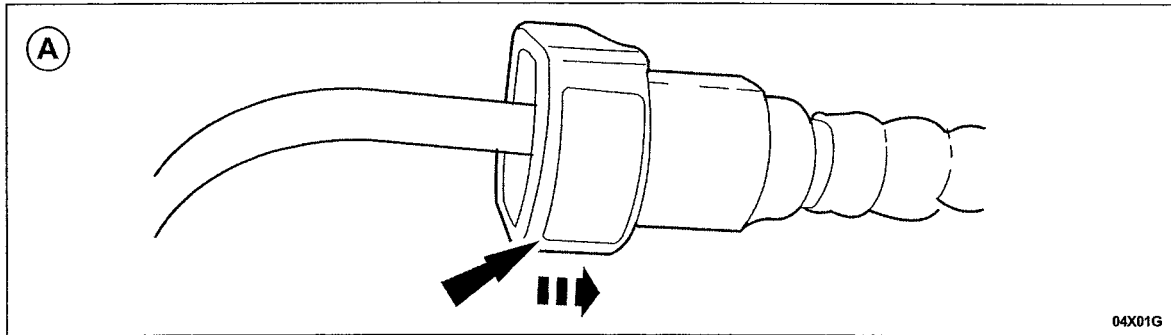

FIGURE 7
1. To disconnect: See Figure 7.